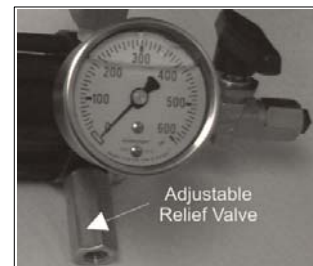

Figure 5
1. If your cylinder is equipped with an adjustable relief valve (see Figure 5), use an auxiliary gas supply to set the valve at least 50-100 psi above pipeline pressure, not to exceed the maximum allowable working pressure indicated in Table 1 (refer to IO&M for relief valve).